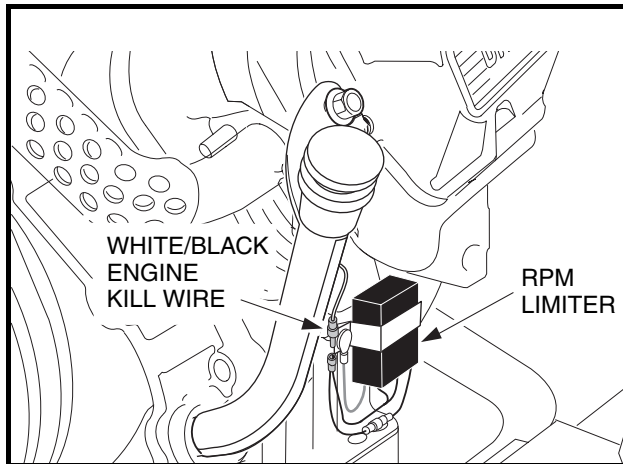

Figure 11-22 Disconnect White/Black Engine Kill Wire
2. Disconnect the engine kill white/black wire at the bullet connector located next to the RPM limiter (**Figure 11-22, Page 11-24**).
2. Disconnect white/black wire bullet connector located at the engine RPM limiter (Figure 11-22, Page 11-24).